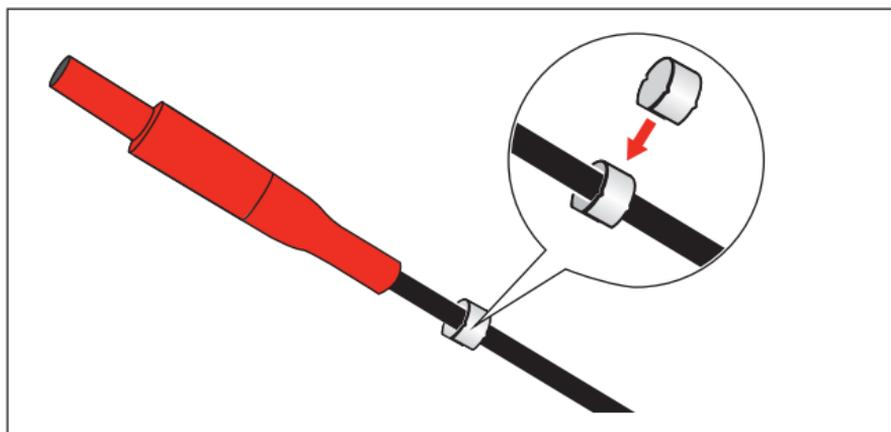

Figure 1. Cable Marker Clips
2. Use the markers A, B, C, N or 1, 2, 3, N as appropriate for the region. See Figure 1.